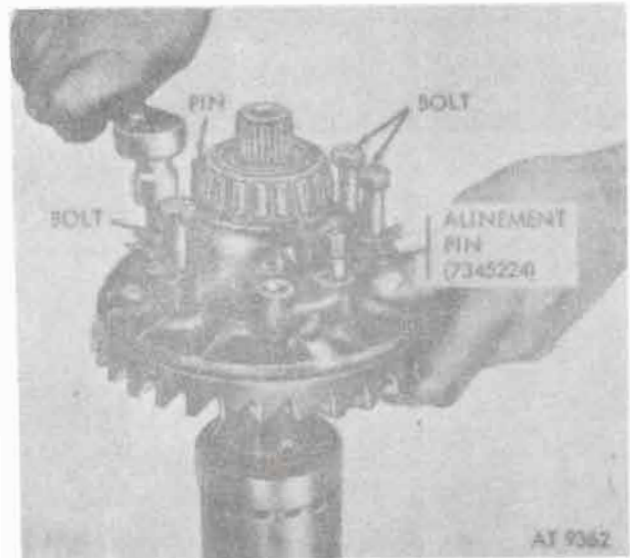

Figure 12-43. Removing alignment pins (7345224).
j. Tighten for opposite bolts and remove alinement pins (7345224) (fig. 12-43).